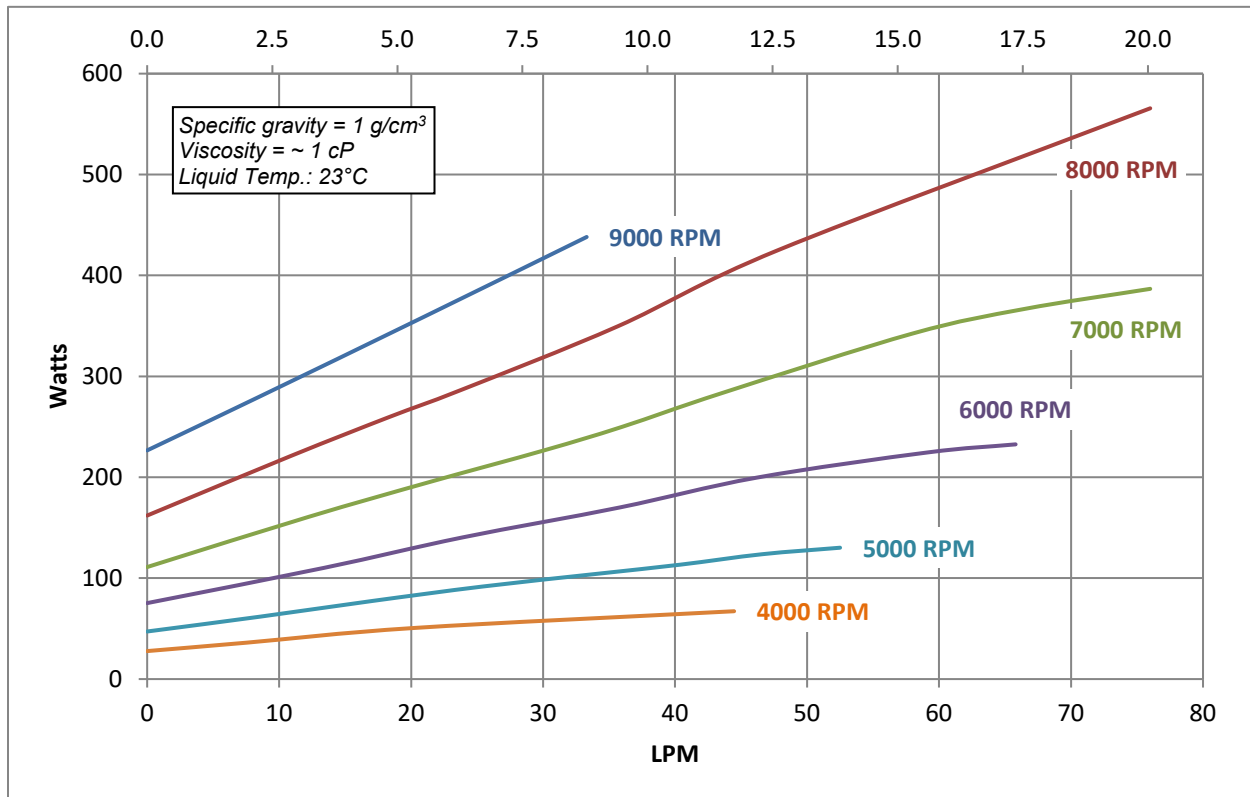

Figure 13 – Electrical Power Consumption
4. The pump system requires 48 VDC supply voltage at a maximum power of 600 W. Depending on the desired hydraulic operational point, smaller power supplies may be used. Also, a larger supply may be used to power several pump systems simultaneously. Figure 13 shows the power consumption depending on the pressure and flow rate. Contact Trebor for additional information on a power supply solution.